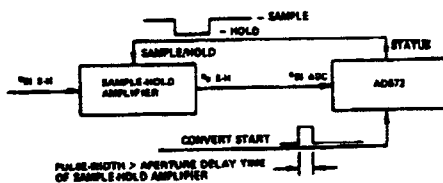
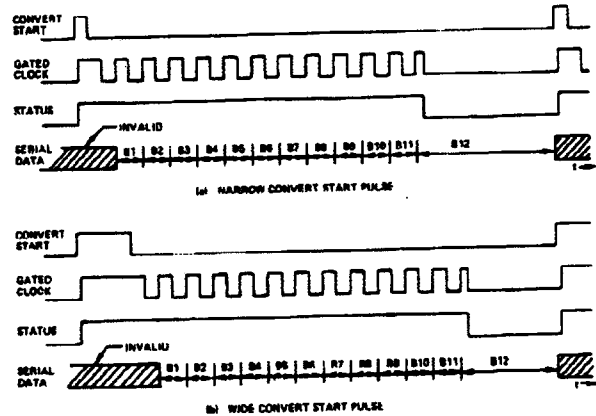

Figure 8. Sample-Hold Amplifier - AD572 Interconnections
Figure 9. Effect of Convert Start Pulse-Width on Timing
When the analog signal source has a low impedance (as would be the case if it were the output of the sample-hold amplifier of Figure 8), it can be connected to either of the direct input pins 24 and 25. The buffer follower is used in the application as shown in Figure 6, in which the analog input to the converter comes directly from the output of a FET analog multiplexer. The selected channel has a typical  $r_{on} = 200 \Omega$  which has a  $3000 \text{ ppm}/^\circ\text{C}$  tempco. If the multiplexer output were connected to the 0 to +10 V direct input Pin 24 (5 k $\Omega$  input impedance, nominal), this  $r_{on}$  would introduce a 4% gain scale-factor loading error, which is well beyond the normal  $\pm 0.25\%$  FSR external gain adjustment range, and a tempco of approximately  $3000 \text{ ppm}/^\circ\text{C} \times 4\% = 120 \text{ ppm}/^\circ\text{C}$ . By connecting the buffer between the multiplexer output and direct input, these errors are eliminated. The buffer amplifier input bias current (50 nA typical) must flow through the analog signal source, however. This limits the upper practical source impedance to several kilohms so that the offset voltage  $I_{BIAS} R_{SOURCE}$  can be kept negligible, even though the buffer amplifier dynamic input impedance  $\geq 100 \text{ M}\Omega$ . The buffer amplifier has a 2  $\mu\text{s}$  settling
**Sample-Hold Amplifier:** A sample-hold amplifier (SHA) is normally connected between the analog signal source and AD572 analog input when the analog signal can change by more than 1/2 LSB during conversion. Typical SHA-AD572 interconnections are shown in Figure 8. The STATUS output drives the SHA SAMPLE/HOLD input directly. On receipt of a CONVERT START pulse, the STATUS flag changes from "1" to "0" causing SHA mode to change from SAMPLE to HOLD. The SHA output voltage  $e_{o, S-H}$  is then held constant at the value existing just prior to application of the HOLD command for the complete conversion period. At the end of conversion, the STATUS flag returns to "1," restoring the SHA mode to SAMPLE,  $e_{o, S-H}$  again tracks the analog signal voltage  $e_{in, S-H}$  (after the signal acquisition transient has subsided).
Note that the internal (gated) clock is inhibited for the duration of the CONVERT START pulse and does not start running until the termination of this pulse (see timing). This can be used to simplify control signal timing requirements. In the circuit of Figure 8, for example, the CONVERT START signal pulse-width can be extended beyond the aperture delay time of the SHA to assure that  $e_{o, S-H}$  is in steady state before conversion is initiated. This assured accurate conversion without requiring additional delay timing circuitry. The effect of varying the CONVERT START pulse width on the conversion timing cycle is shown in Figure 9.